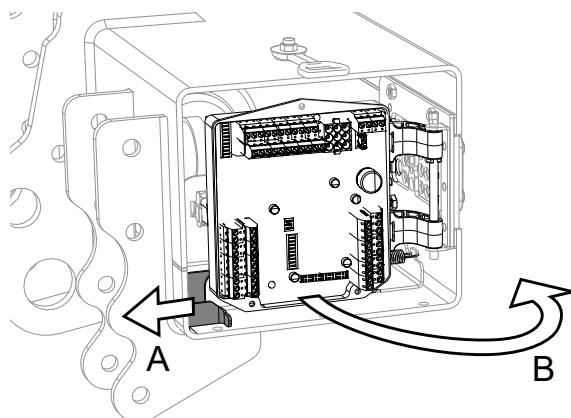
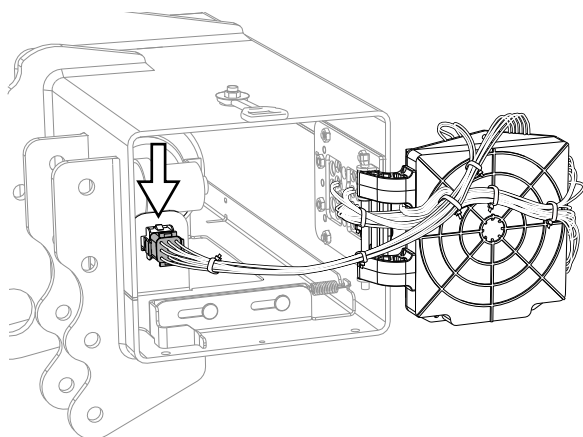

Figure 12. Release mechanism
Figure 13. Connection socket
3. Fold out the control card / relay card (B) and loosen the cabling at the connector on the hydraulic unit; see Figure 12 and Figure 13.